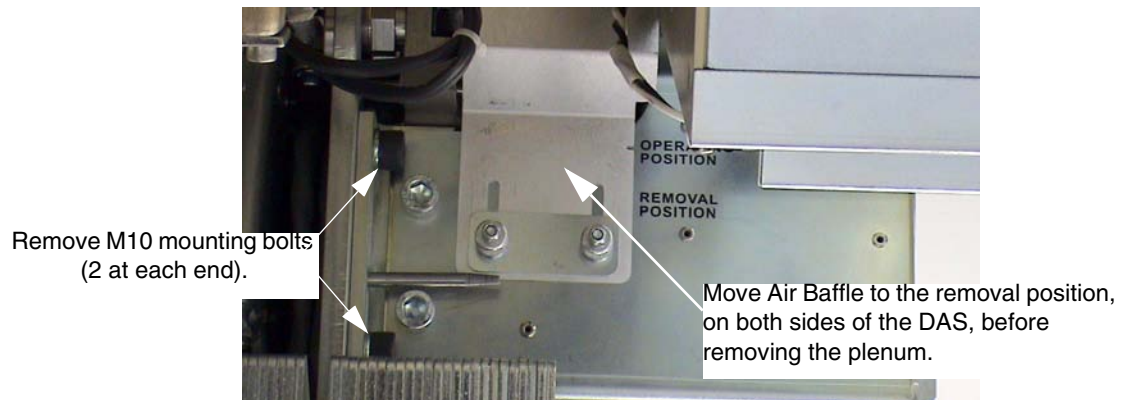

Figure 1 - DAS Air Plenum: Baffle & Mounting Bolts
- 2.) Remove gantry side cover, and turn OFF all three (3) service switches on the **STC** backplane.
- 7.) Set air baffles on either end of the duct to the "Removal Position" (see Figure 1):
- 8.) Remove four (4) M10 mounting bolts (2 at each end). See Figure 1.